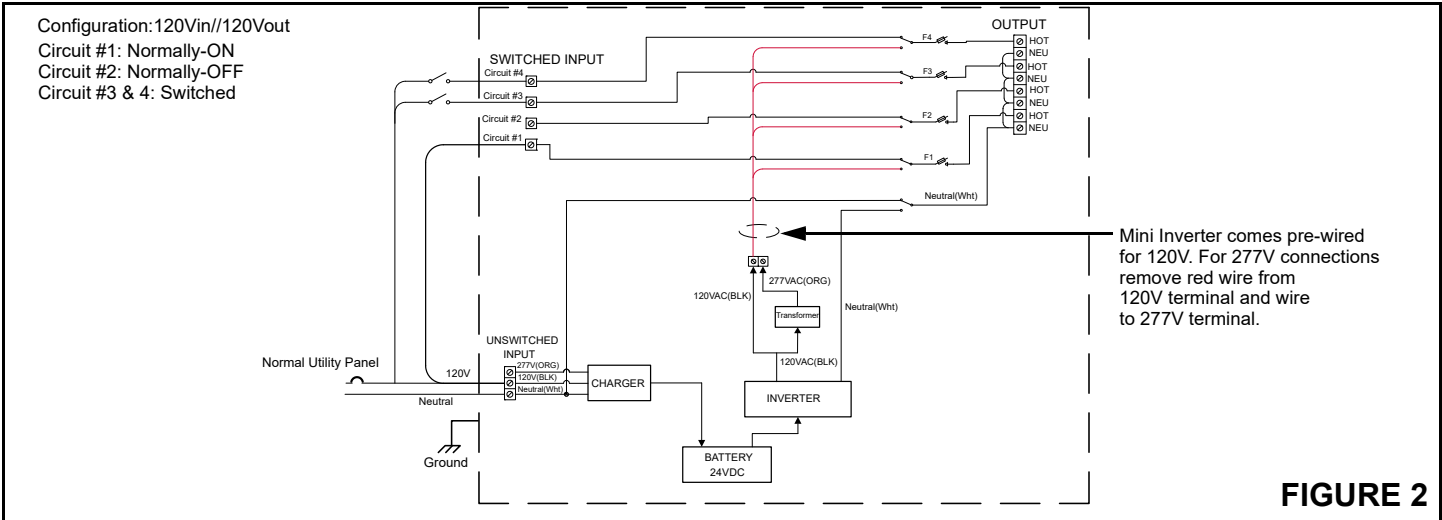

FIGURE 2
- a. Mini Inverter with option -4 can control four individual circuits (see figure 2).
- e. **Power supplied to the switched inputs must be fed from the same branch circuit as the unswitched input (see figure 2).**
- f. Unit is shipped from factory pre-set for 120V in // 120V out and configured for Normally-On load operation (see figure 2). This configuration can be changed to fulfill customer's application.
STEP 2: CONFIGURATION OF OUTPUT VOLTAGE (SEE FIGURE 2 AND 3)